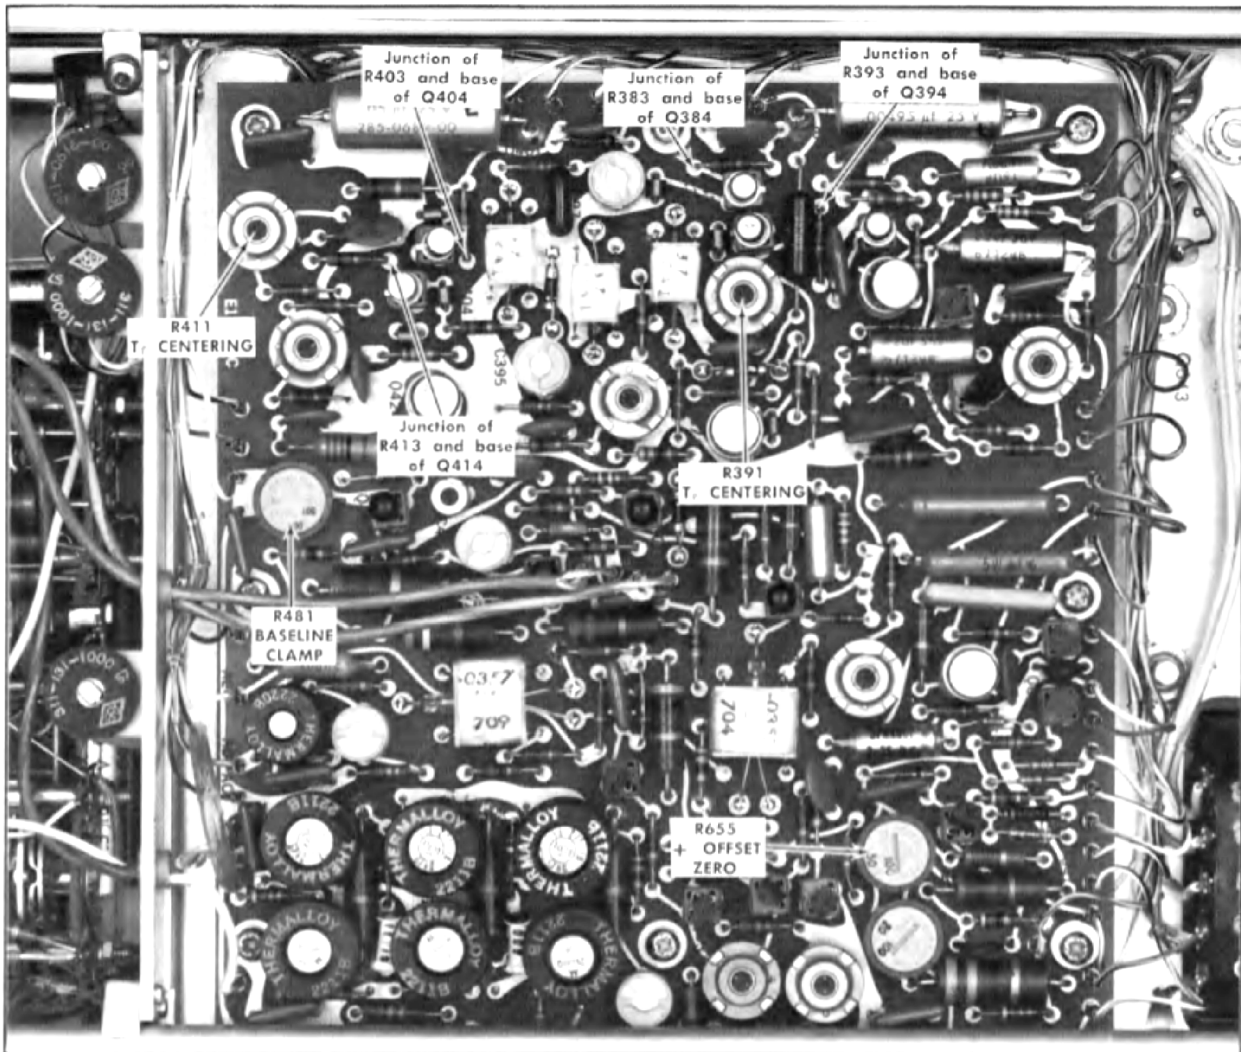

Fig. 5-5. Bottom circuit board: Location of test points and adjustments in steps 4 through 8.
- f. Connect the negative lead of the voltmeter to the junction of R383 and the base of Q384 (see Fig. 5-5).
- g. Connect the positive lead of the voltmeter to the junction of R393 and the base of Q394 (see Fig. 5-5).
- i. ADJUST—R391, Tr CENTERING adjustment, (see Fig. 5-5) if the voltage is not correct.
- a. Connect the negative lead of the voltmeter to the junction of R403 and the base of Q404 (see Fig. 5-5).
- b. Connect the positive lead of the voltmeter to the junction of R413 and the base of Q414 (see Fig. 5-5).
- d. ADJUST—R411, T, CENTERING adjustment, (see Fig. 5-5) if the voltage is not correct.
g. ADJUST—R655, +OFFSET ZERO adjustment, (see Fig. 5-5) if the offset zero level is not correct.
f. ADJUST—R481, BASELINE CLAMP adjustment, (see Fig. 5-5) if the baseline level is not correct.